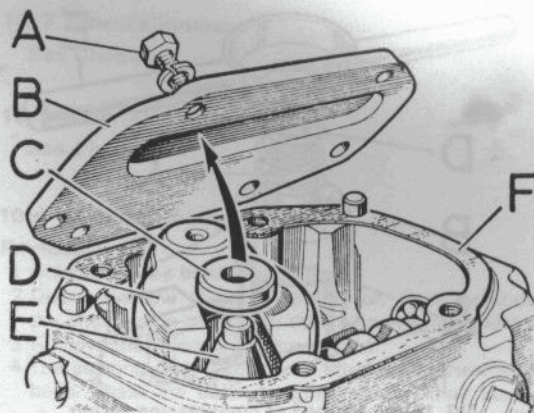

FIG 10:4 View of rocker shaft fitted
- 10 Refer to FIG 10:7 and by the use of special tool, Rover Part No. 600536, compress the spring and lock the tool under the bolt heads 11 (see FIG 10:2).
- 11 Locate the other split bush 3 on the exposed cone of the shaft and secure with a 2 inch (50 mm) hose clip (see FIG 10:8).
Key to Fig 10:4